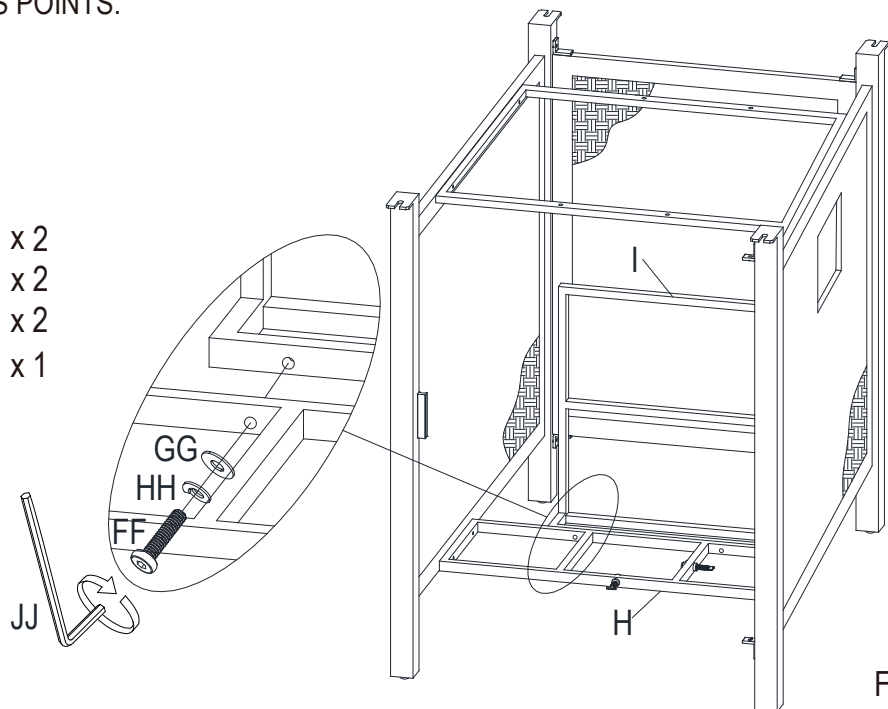

Figure 5
6. Loosely attach Gas Tank Support (H) to the Gas Tank Baffle (I) by bolts (FF) through lock washers (HH), flat washers (GG), using Allen wrench (JJ). See figure 5.